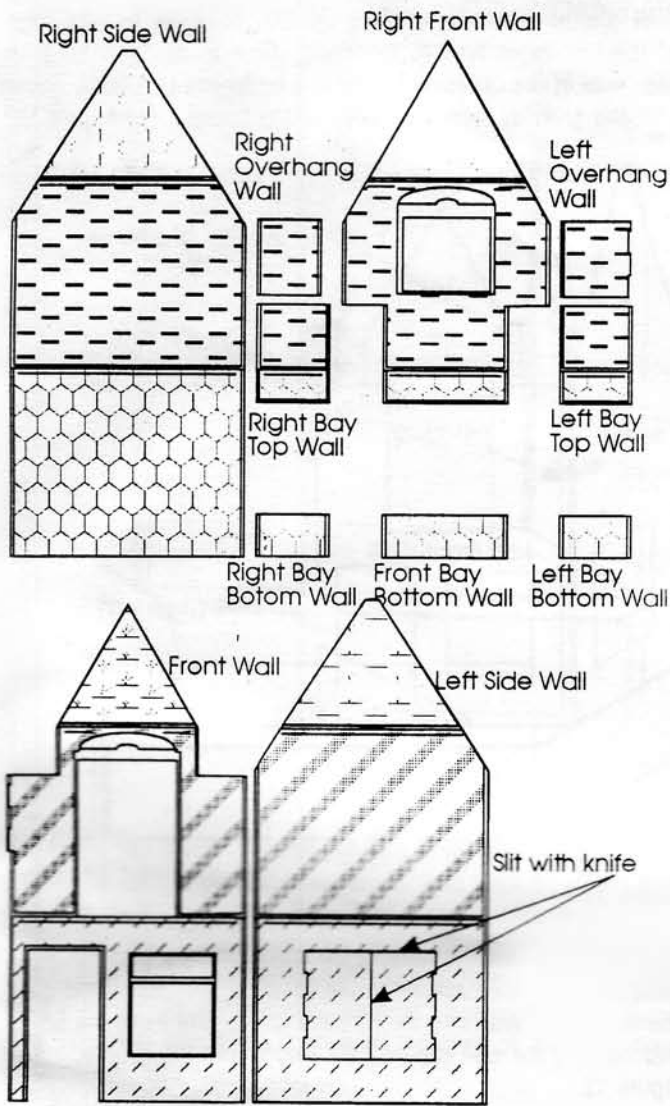

Figure 7
3. Wallpaper- Look to the back view of the house on the label and Figure 7 for a guide to wallpaper locations. Using a glue stick, glue wallpaper to the . Cover the entire inside (bad side) surface of a wall with glue and stick the wallpaper to it. Using a sharp knife, cut the paper 1/8" in from the edge of the outer edge of the walls. Because of the close tolerances of the molding to fit the wall thickness, the paper may make the wall too thick to fit into the grooves of the posts. Trim the wallpaper away from the window and door openings as in Figure 7.